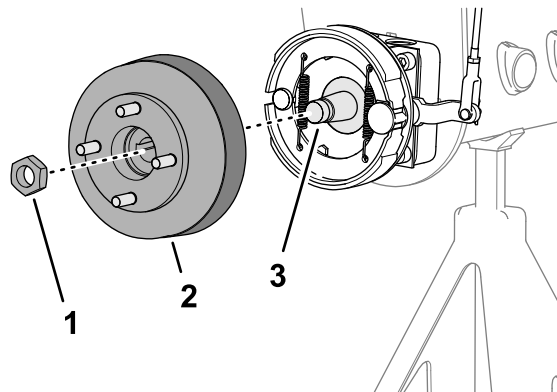
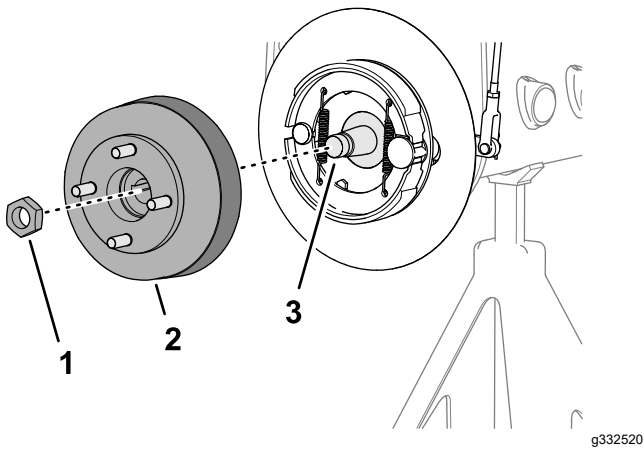

Figure 86
Figure 87
- Assemble the wheel hub and brake drum onto the wheel-motor shaft (Figure 86 or Figure 87).
4. Secure the wheel hub to the shaft with the locknut (Figure 86 or Figure 87), and tighten by hand.